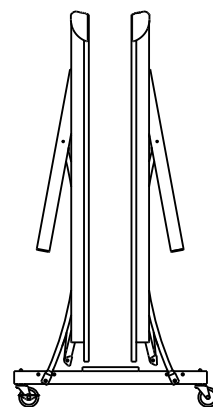

Figure 18
4. Attach net posts and net to table as shown in Figure 18.